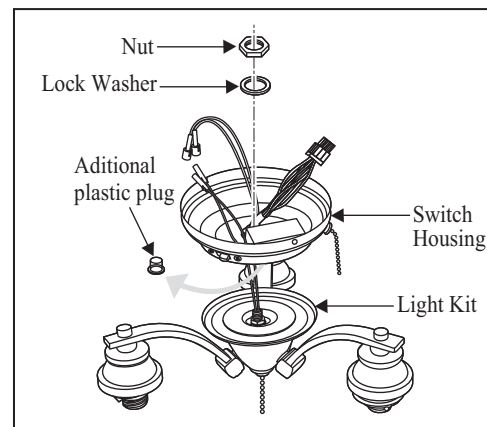

Figure 16
1. Remove the plug from the switch housing. Attach the light kit to the switch housing by feeding the light kit wires (black and white) through the hole of switch housing and then screw it onto the switch housing by nut & lock washer. Be sure it is tight enough to prevent light kit from vibrating loose. (Fig. 16)